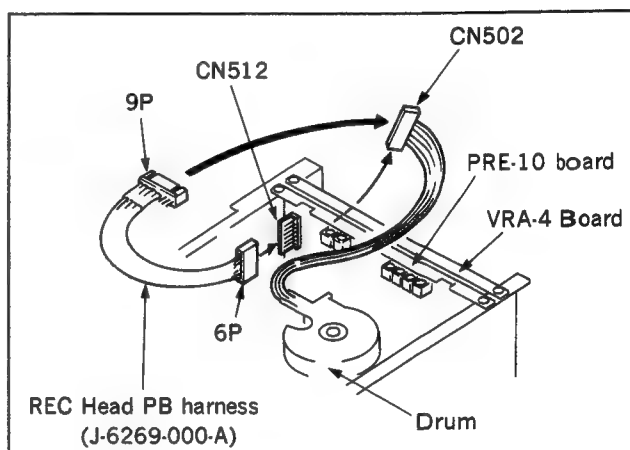

Fig. 6-9-8 Connection of REC head PB harness
2. Disconnect a connector CN502 on VRA-4 board, and connect 9-pin side of the REC head PB harness (J-6269-000-A) to this position. Connect the 6-pin connector on the other end of the harness to CN512 on PRE-10 board (refer to Fig. 6-9-8).
11. Disconnect the REC head PB harness, connect the REC harness of the drum to CN502 on VRA-4 board, and PB harness of the drum to CN512 on PRE-10 board. Disconnect the shorting clip lead from TP704 and GND. (See Fig. 6-9-8.)